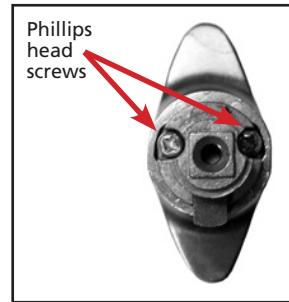

Figure 8
8. Replace the two Phillips head screws. **(Fig. 8)**